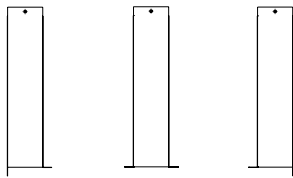

Figure 3 - Standoff Forming
2. The standoffs have a perforation located on each end. Bend them at the perforation as shown in Figure 3.